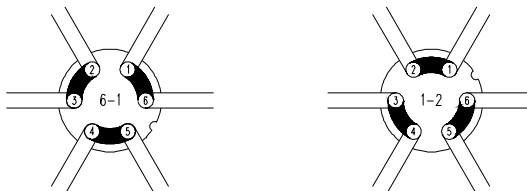

Figure 11 ISS Valve, interconnected ports
- <VALVES>** To program positions of high pressure valves (ISS, injector valve, SSV). The injector valve has two positions: **<INJECT>** and **<LOAD>**. The ISS optional valve has positions 1-6 and 1-2 (Figure 11).